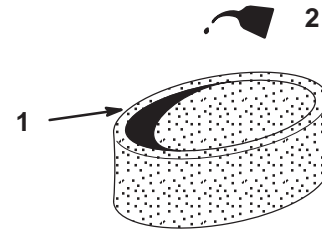

Figure 21
3. Put one or two ounces (30 to 60ml) of oil on the element (Fig. 21). Squeeze the element to distribute the oil.